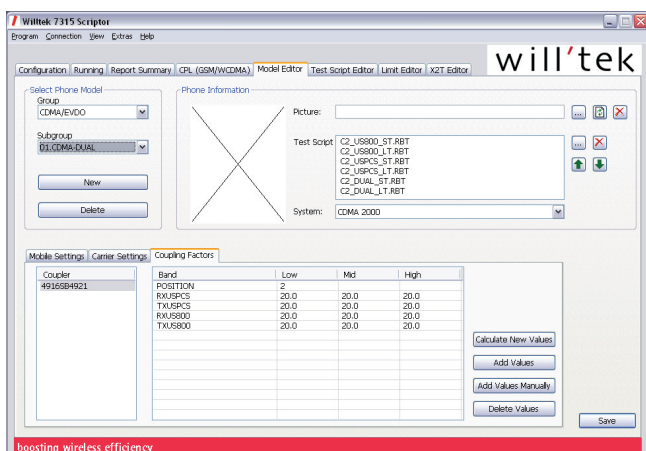

Figure 5: Coupling Factor tab in the Mobile Editor
15. For calculating the attenuation values, select the Coupling Factors tab (see Fig. 5). Here you can add values by measuring the coupling loss between a correctly functioning mobile device and the test instrument, or add the values manually. The latter is useful for those who already obtained the values either through RAPID! or through another method.